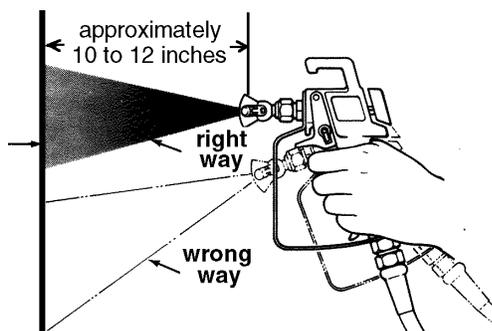

Figure 9. - Right and wrong way to hold spray gun.
- 1) **Keep the gun perpendicular to the surface.** Always hold the gun perpendicular to the surface with the tip approximately 12" from the surface. If held at an angle (up and down or side to side) paint will build up unevenly and leave the work splotchy. (See figure 9).